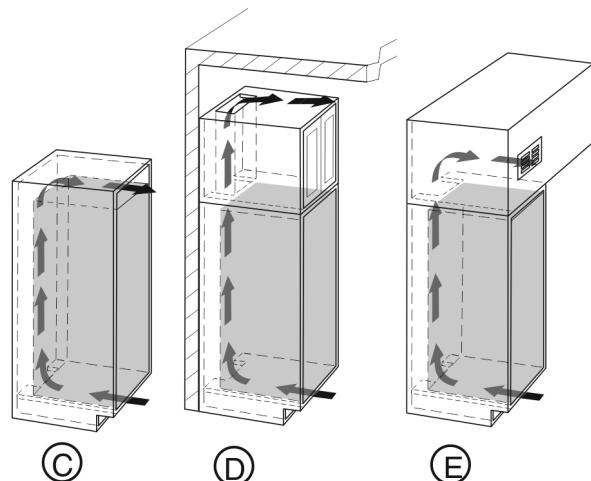

Fig. 7
- The top ventilation gap can be set up either directly above the appliance with an optional ventilation grid Fig. 7 (C) near the ceiling, above the cabinet Fig. 7 (D) or as an air vent in a false ceiling Fig. 7 (E).